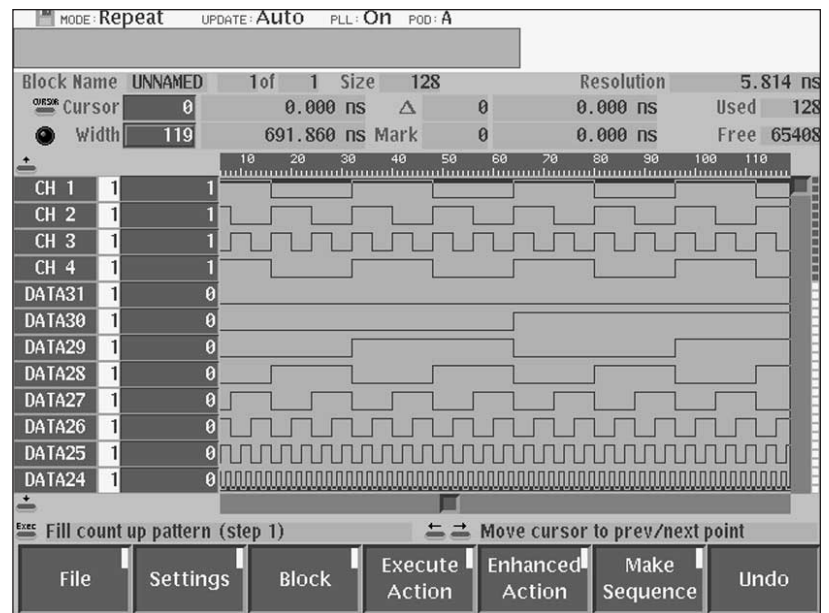

Figure 8: Multi-channel DG bus timing display.
- **Display:** The DG display must emphasize the details of many channels of pattern data simultaneously rather than the details of signal amplitude vs. time (as with the AWG display). It should offer markers, scrolling, and other time-saving features to help the user focus on the data of interest. Figure 8 is an example of a multi-channel DG display.